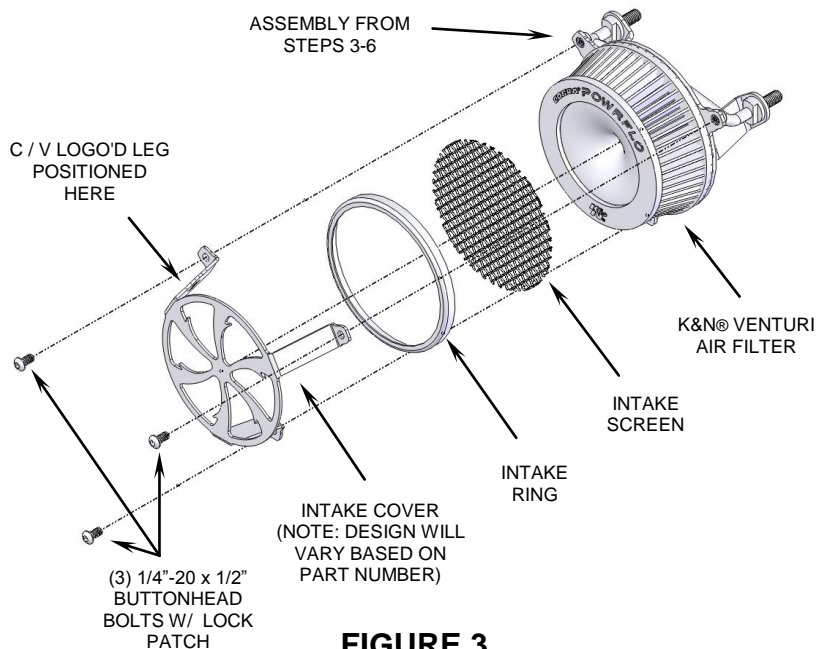

FIGURE 3
8. Place the supplied K&N® filter onto the velocity stack. Insert the round intake screen into the black ring so the screen sits inside the edge of the ring. Place the ring and screen between the legs of the naked black intake cover as shown in Figure 3.
9. Place the naked intake cover, ring and screen assembled in Step 8, over the air filter and align each leg to the base mounting plate threaded holes. Be sure screen sits at a 45 ° angle to the bottom leg, and C/V logo'd leg is at the upper left position. Insert the (3) supplied 1/4"-20 x 1/2" buttonhead bolts through the intake cover and into the base mounting plate, see Figure 3. Double check all parts are aligned properly and tighten securely.